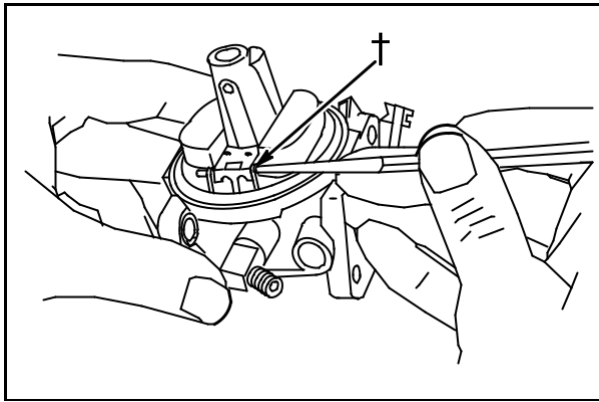

Fig. 24
Remove float hinge pin (6), float and inlet needle, **Fig. 24**.